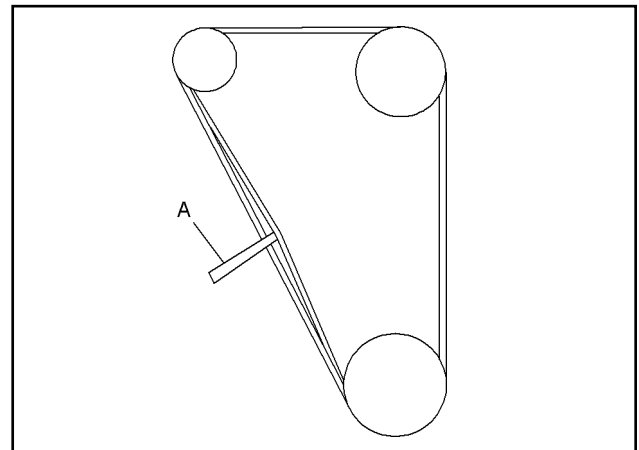

FIGURE 4-2. FAN BELT ADJUSTMENT
2. Check the belt tension (Figure 4-2). See the engine manufacturer's manual for tension specifications.